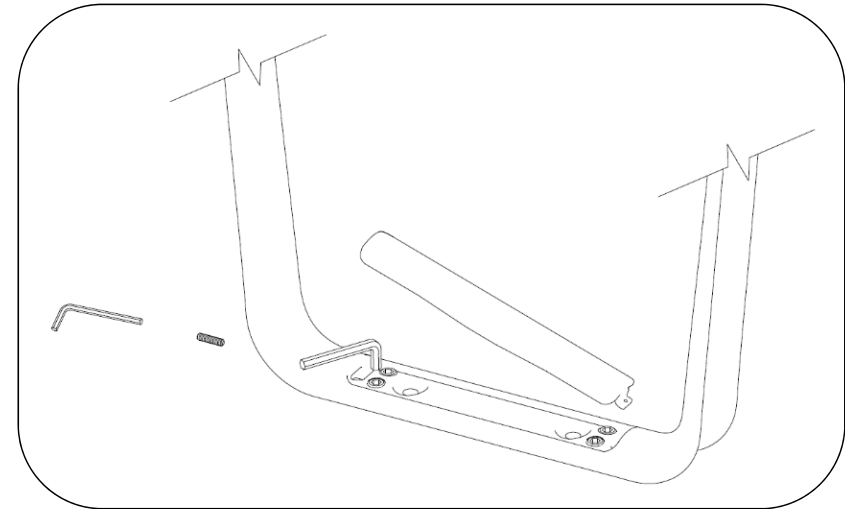

Fig. 3 – install cover plate
1. Insert tab end into casting frame, see Fig. 3.
2. Using 1/8" hex key, install 1/4-20 set screw in opposite end of cover plate, through the casting frame, see Fig. 3.